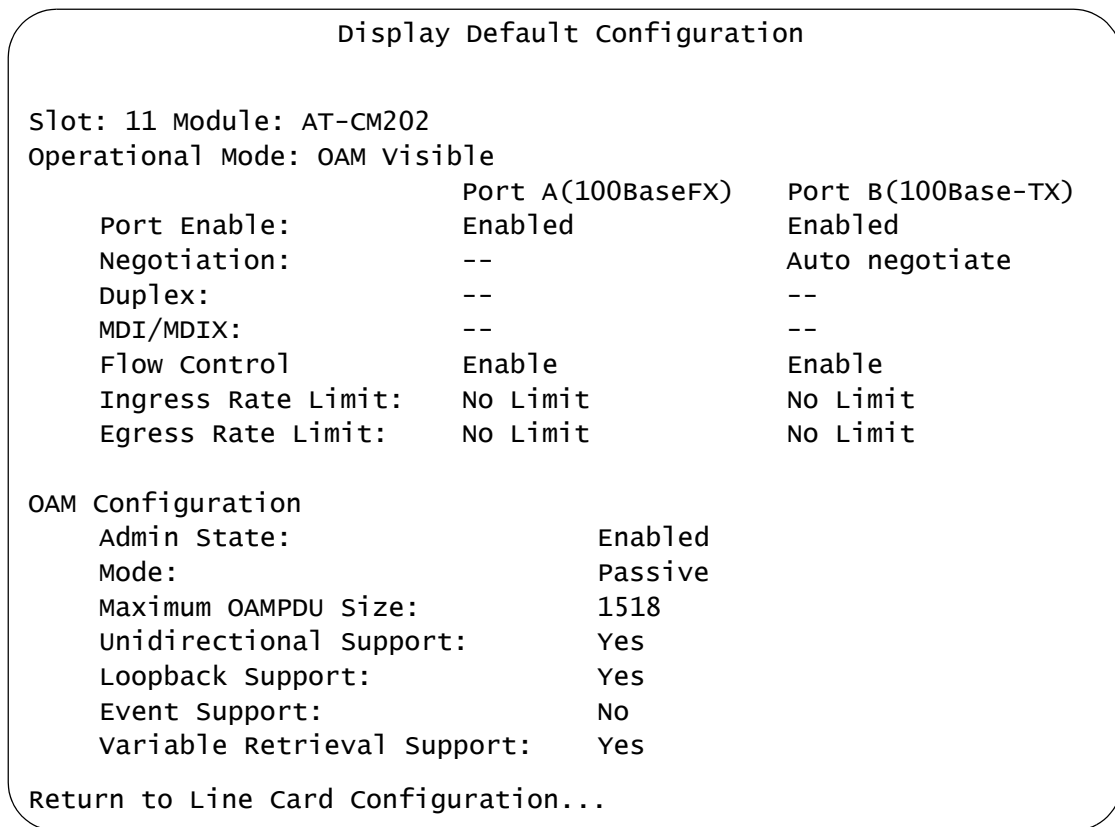

Figure 63. Display Default Configuration Window
- To view the default settings of the line card prior to activating them, select **Display Default Configuration**. An example of the window is shown in Figure 63.